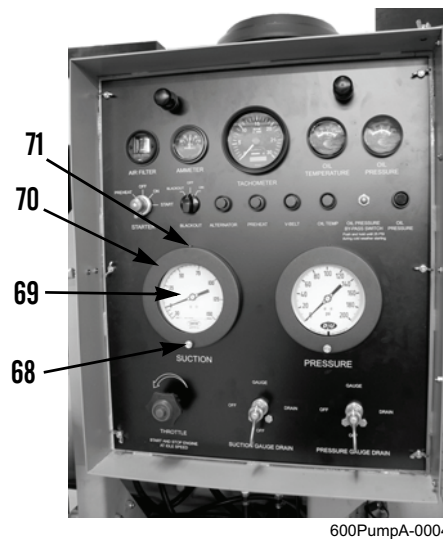

Figure 24. Suction Gauge Cover.
7. Install cover (Figure 24, Item 70) and setscrew (Figure 24, Item 71) on suction gauge (Figure 24, Item 69) and tighten thumbscrew (Figure 24, Item 68).